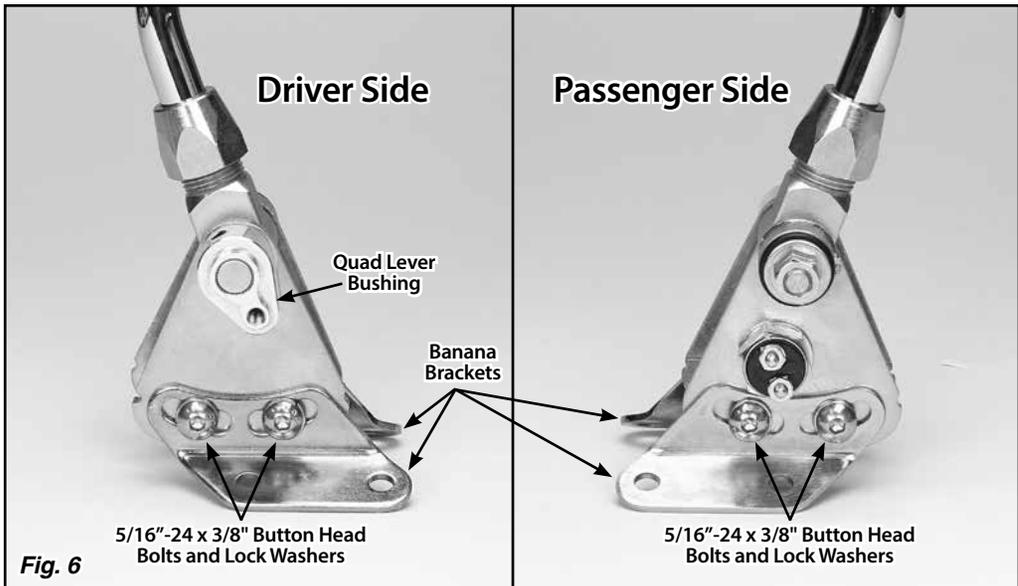

Fig. 6
**Step 8:** Install the banana brackets onto the shifter assembly using the 5/16"-24 x 3/8" button head bolts with lock washers. The curved, slotted holes in the banana brackets go against the shifter, and the bottom of both banana brackets should be pointing towards the rear. Fig. 6
Double check to make sure the bolts connecting the *driver* side banana bracket to the shifter assembly are tight. **Fig. 6**